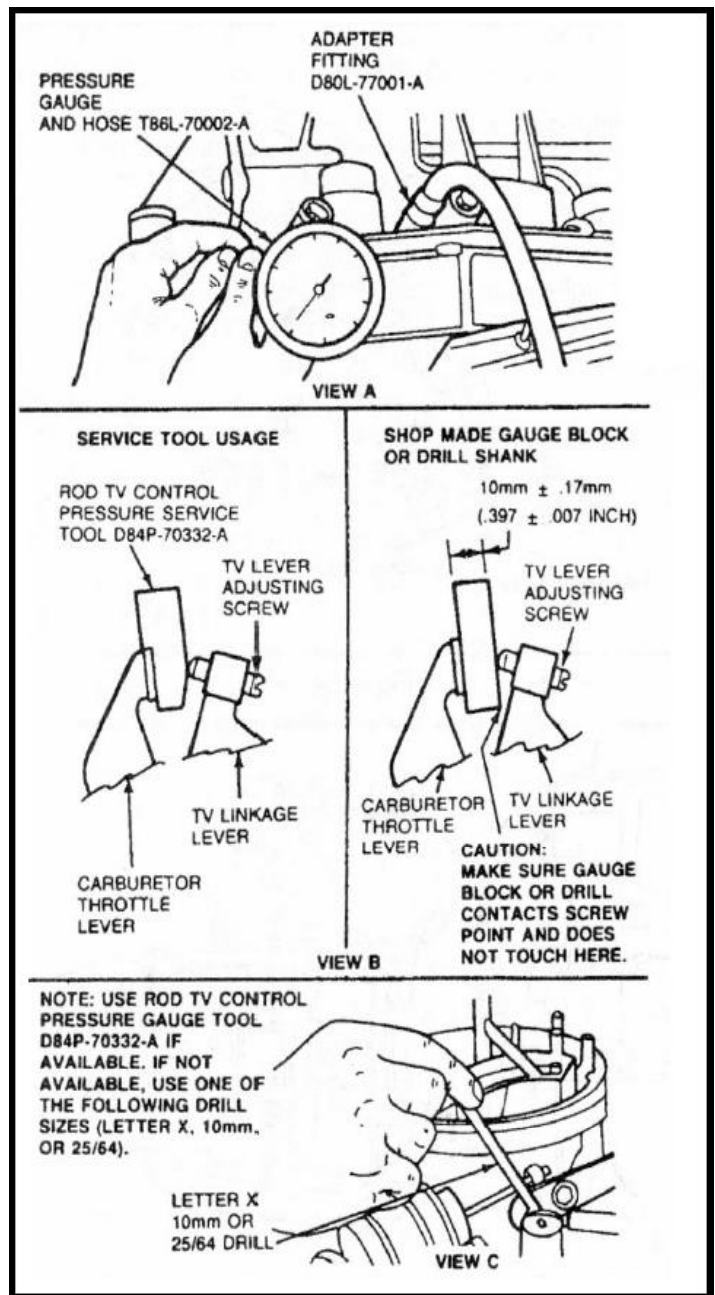

FIGURE 3
The following procedure may be used to check and/or adjust the throttle valve (TV) control linkage using the TV control pressure. (See Fig. 3).